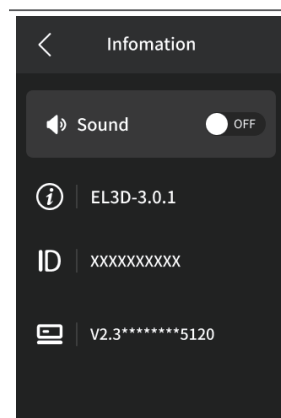
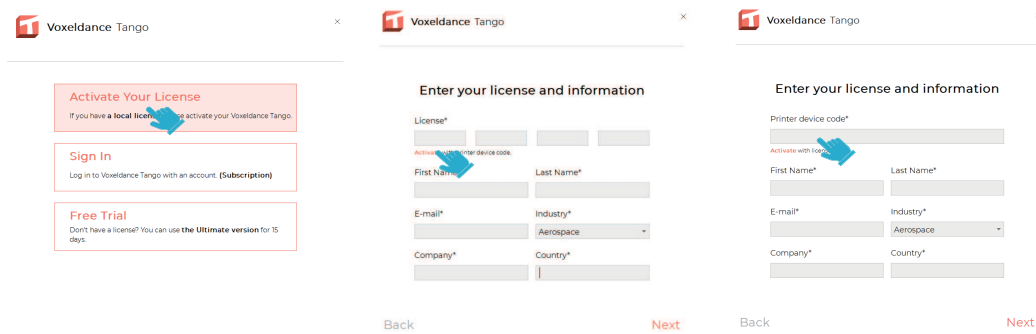

Figure 6: The printer ID on the Information screen
Figure 7: Activating Voxeldance Tango
1. When the installation is complete, start the software and select **Activate your license** – **Activate with printer hardware code** (see Figure 7). On the printer, tap **Settings** – **Information** to see the printer's ID (see Figure 6). Enter this 10-digit ID in the **Printer Hardware Code** field of the software, fill in the other details and complete the activation.